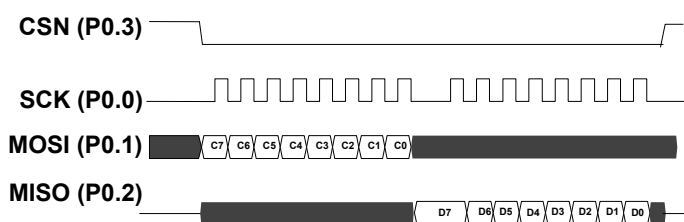
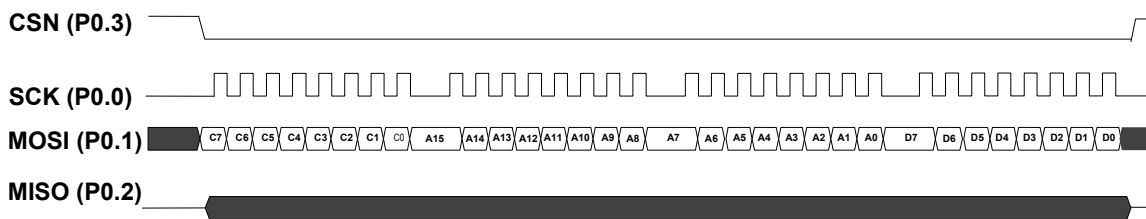

Figure 63. SPI read command without address
Figure 66. SPI OTP write operation, shown with 1 databyte
An SPI command always starts with the external master sending a command byte to the OTP slave, followed by a variable number of address and data bytes. The number of address and data bytes is specific to each command, as shown in Table 119. on page 141. In Figure 63. on page 141 to Figure 66. on page 142, C_n are the SPI command bits. A_n are the address bits and D_n are the data bits (note: MSBit in each byte first). After CSN is deactivated, an OTP write command requires the chip to do the OTP programming, and this will take some time to complete. Therefore, it is advised to not issue a new command until the specified amount of time has elapsed. Alternatively, you can repeatedly issue `RDSR` commands until the `FSR.RDYN` bit reads back as 0.
The SPI command `RDSR` reads out the content of the OTP status register `FSR`, and consists of one-command byte and one-data byte as shown in Figure 63. on page 141. By keeping the `CSN` line active after the first data byte, `FSR` will be repeatedly re-read until `CSN` is set inactive.
3. The `PROGRAM` command is sent on the `MOSI` line followed by the two-byte address (address of the first byte) and the data to be programmed/ written, as shown in Figure 66. on page 142.
The SPI command `RDFPCR` reads out the content of the OTP protect configuration register `FPCR`, and consists of one command byte and one data byte as shown in Figure 63. on page 141.